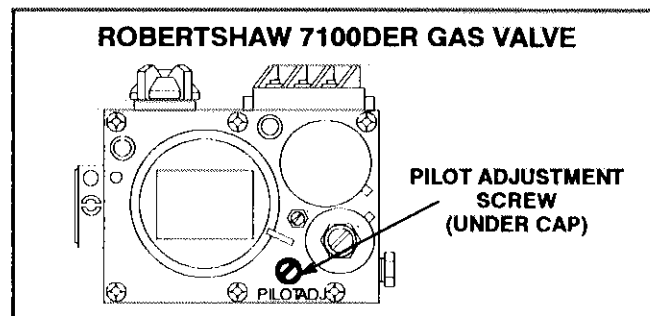

FIGURE 27
After items 1 through 7 have been checked and unit still will not start, manually reset vent safety shut-off switch located at the right side of draft hood. If unit operation resumes and then cuts out again, inspect furnace vent system for proper sizing and installation. Also, check for vent blockage and for proper draft. If unit still does not start, reset roll-out switch on burner box. See figure 27. If unit starts and cuts out, check heat section for blockage.